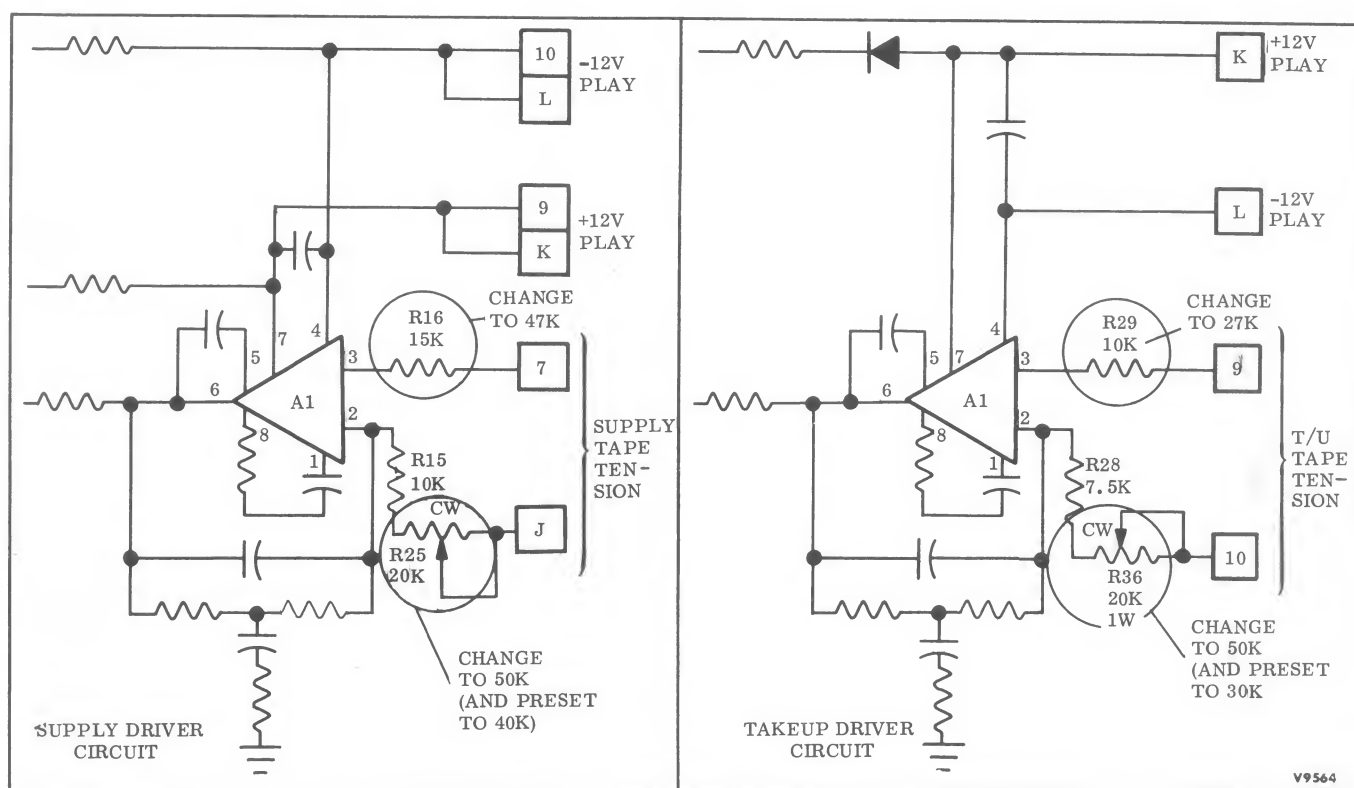
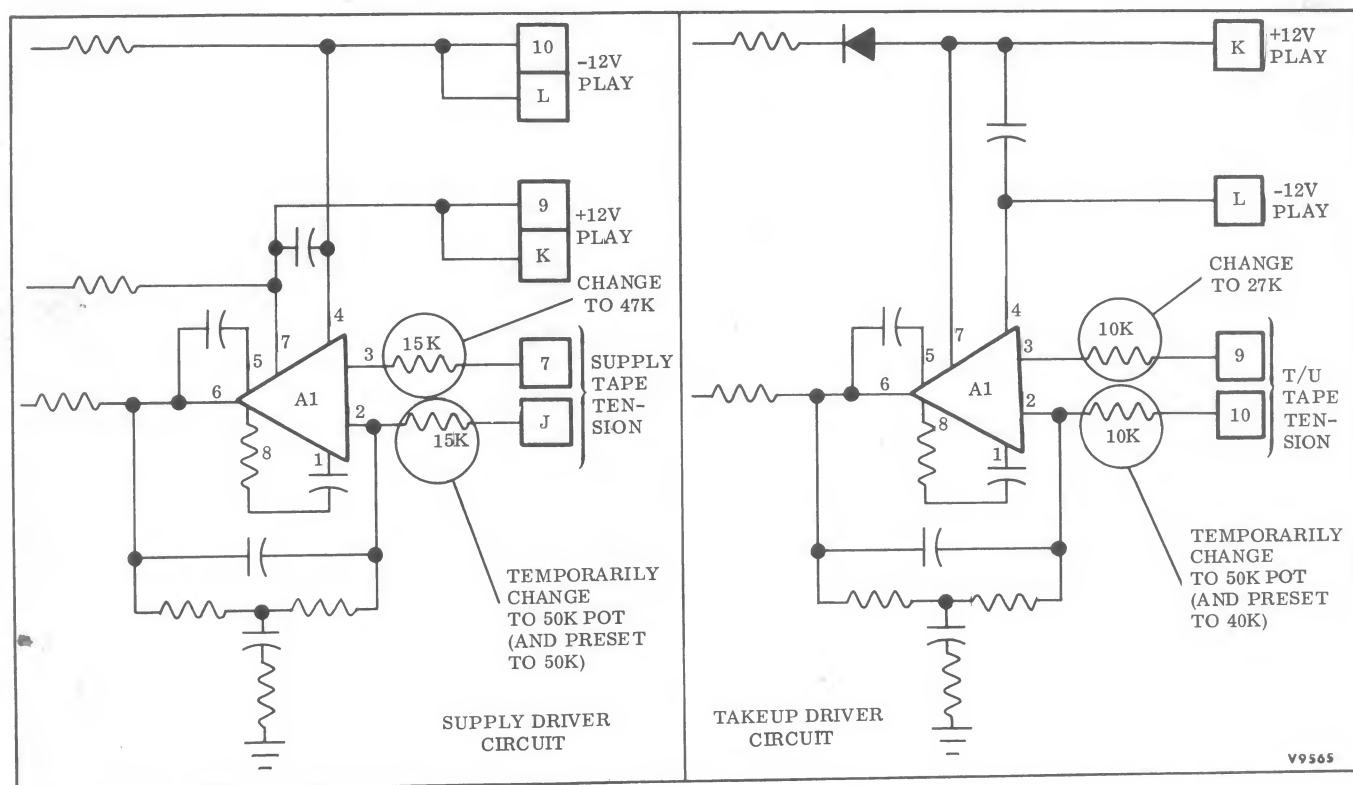

Figure 2-4. Changes to Torque Motor (Late Models)
Figure 2-5. Changes to Torque Motor Driver Boards (Early Models)
1-5 The kit includes two new tape compliance assemblies and covers which are installed on the recorder top plate in place of the existing items. To complete the installation, a minor modification is made to the circuit of the torque motor driver boards (see Figure 2-4), and the tape tension system is readjusted to the original specification.
b. Refer to Figure 2-4 (or Figure 2-5 for early model recorders), which is a partial schematic of the two driver boards. Using components from the kit, change the fixed resistor and potentiometer on both boards as shown. For convenience, preset to the indicated values before installation. Complete schematics, showing the modifications incorporated, can be found in Section V of this manual.
g. Measure the *combined* resistance of the new potentiometer R36 and its associated fixed resistor R28 (see Figure 2-4), then set the
h. Measure the combined resistance of new potentiometer R25 and its associated fixed resistor R15 (see Figure 2-4), then set the potentiometer to obtain a combined value which is twice that measured. In the case of early models, replace the new temporary potentiometer with a fixed resistor which is twice the value of that measured by the potentiometer.